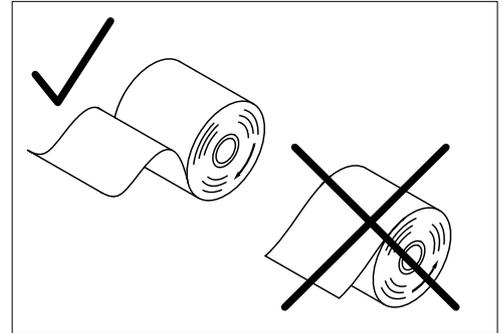

Fig. 1
3. Insert a roll of thermal paper, 57 mm wide and max. 70 mm diameter, so that the thermal paper unrolls from the bottom and is fed past the printer mechanism, see Fig. 1.